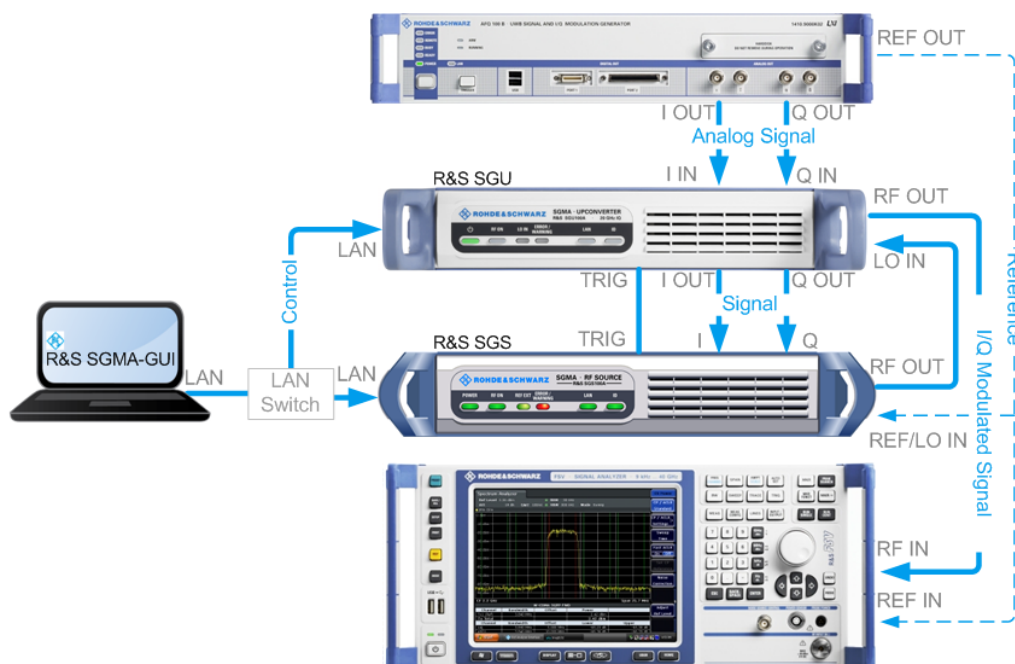

Figure 9-2: Example of the test setup
The Figure 9-2 shows an example of the test setup.
1. Connect the test equipment as shown on Figure 9-2: